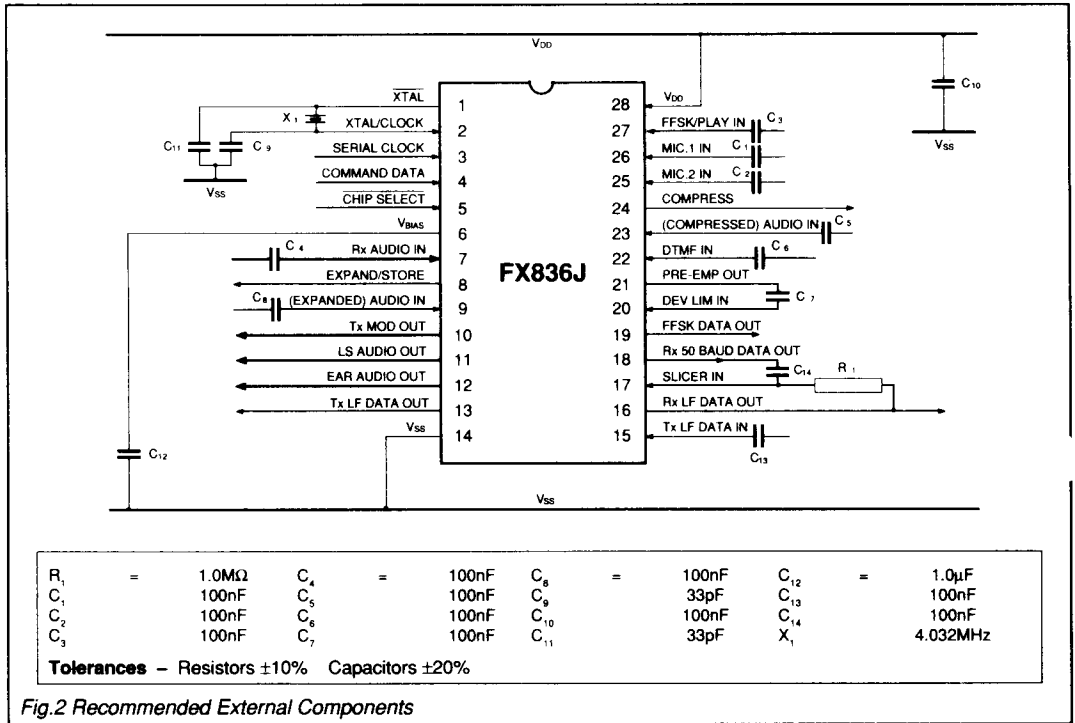

Fig.2 Recommended External Components
- 2 **Xtal/Clock:** The input to the on-chip clock oscillator. A Xtal or externally derived clock ( $f_{XTAL}$ ) should be connected here. Note that operation of the FX836 without a suitable Xtal or clock input may cause device damage. See Figure 2 (notes).
- 6  **$V_{BIAS}$ :** The internal circuitry bias line, held at  $V_{DD}/2$  this pin must be decoupled to  $V_{SS}$ . See Figure 2.
- 8 **Expand/Store:** A common output that can be used as either an input to an external audio expander or the input to a voice storage medium such as the FX812. Components relevant to the external device requirements should be used at this output. See Figures 2 and 4.
- 9 **(Expanded) Audio In:** The audio input, via SW5, from an external expander or audio mixing function. This input has a  $1M\Omega$  internal resistor to  $V_{BIAS}$  and requires to be connected via a capacitor. See Figures 2 and 4.
18	Rx 50 Baud Data Out: The output of the received 50 baud data. See Figures 2 and 4.
20	Deviation Limiter In: Input to the on-chip deviation Limiter. This input should be a.c. coupled to the Pre-Emphasis Out pin. The a.c. coupling is required to achieve the best possible symmetry of limiting as this input has a 1M $\Omega$ internal resistor to V BIAS . See Figure 2.
21	Pre-Emphasis Out: Audio output from the Tx Input Gain/Pre-Emphasis function. This output should be a.c. coupled to the Deviation Limiter In pin. See Figures 2 and 4.